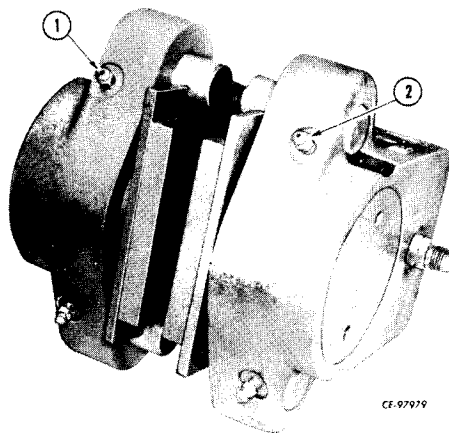

Figure 15-2
3. Bleed the brake caliper. Note the point at which the brake line joins the caliper housing. Bleed the screw highest and farthest from this point first (1, Fig. 15-2). The remaining high screw (2) is next. Procedure is the same; build up pedal pressure; open screw; close screw when pedal is at bottom of stroke. Repeat procedure at each bleed screw until fluid, free of bubbles, is ejected from the screw. Check fluid level in reservoir often.